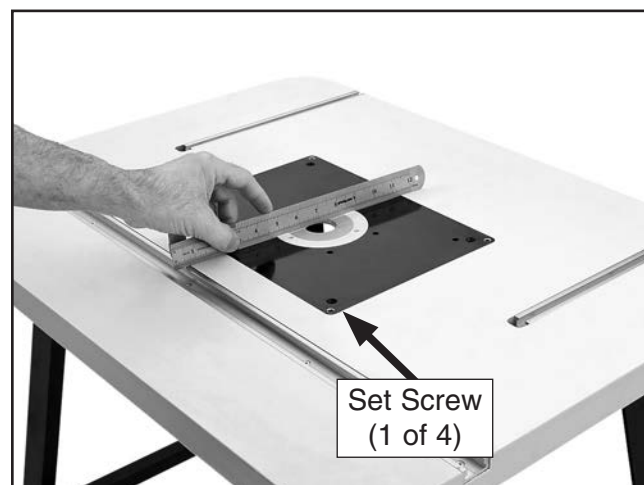

Figure 14. Using the straightedge on the mounting board and table.
4. Adjust the set screws at the corners of the mounting board (see **Figure 14**) until the ends of the straightedge lay flat on the table surface at all positions of the star pattern.